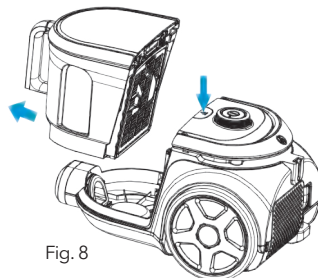

Fig. 8
2. As in Fig.8, take the dust chamber out of the machine.